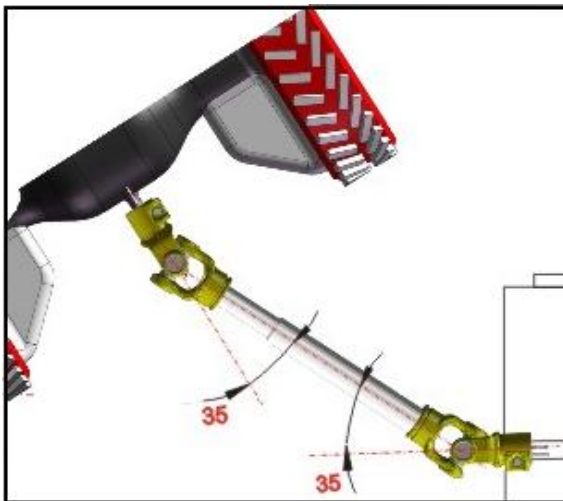

Figure 12
- Switch off the tractor and stop operating when the angle of the shaft joints exceeds 35° during sharp turns. Operation may continue between 70°-80° depending on the types of joints in obtuse shafts **(See Figure 12)**